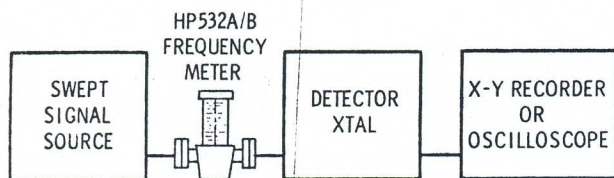

Figure 2. Simplified Swept-Frequency Setup
21. For swept-frequency measurements (see Figure 2) the detector is normally a crystal and the indicator an oscilloscope or X-Y recorder. When the frequency meter is tuned to a frequency included in the swept frequency band displayed on the oscilloscope or X-Y trace. To determine the frequency, adjust the frequency meter to place the dip at any point on the displayed trace. Then read the frequency meter dial by observing the indication under the black vertical line between the two horizontal red cursor lines. The frequency axis of the swept display can be calibrated by setting the frequency meter to a given frequency. A dip will then occur in the displayed trace corresponding to the frequency meter setting.